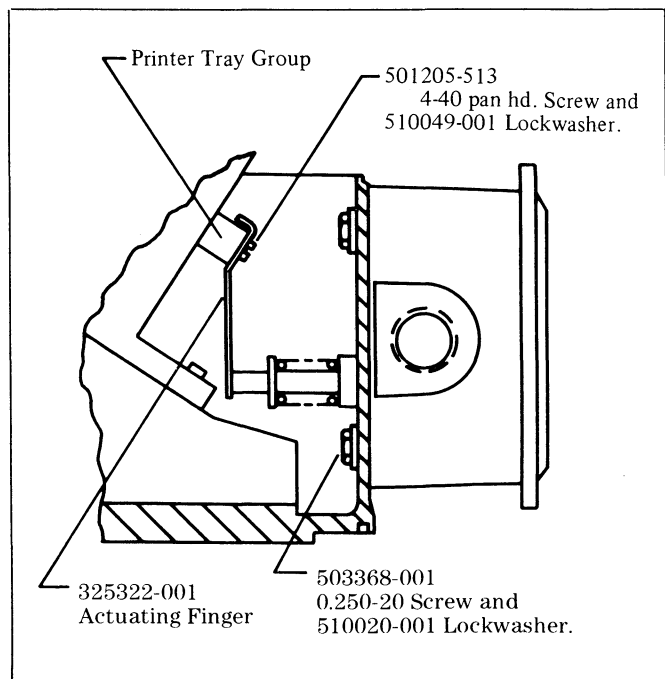

Figure 2. Tray Sensing Switch Mounting Details.
1. Attach the Tray Sensing switch through the holes in case with three screws and lockwashers. (See Figure 2.) Tighten mounting screws to 30 to 35 lb-in.
2. Remove the screw from the printer tray group. Attach actuator finger, 325322-001, with new pan head screw, 501205-513, and lockwasher, 510049-001. (See Figure 2.)